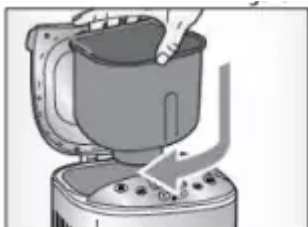

Figure 3
- Measure the ingredients with the measuring cup or spoon supplied and add them into the pan. **IMPORTANT:** Make sure to read instructions for How to Add Ingredients and make sure to exactly follow the chosen Recipe. (Fig 3). **NOTE:** Bread pan must lock into place for proper mixing and kneading.